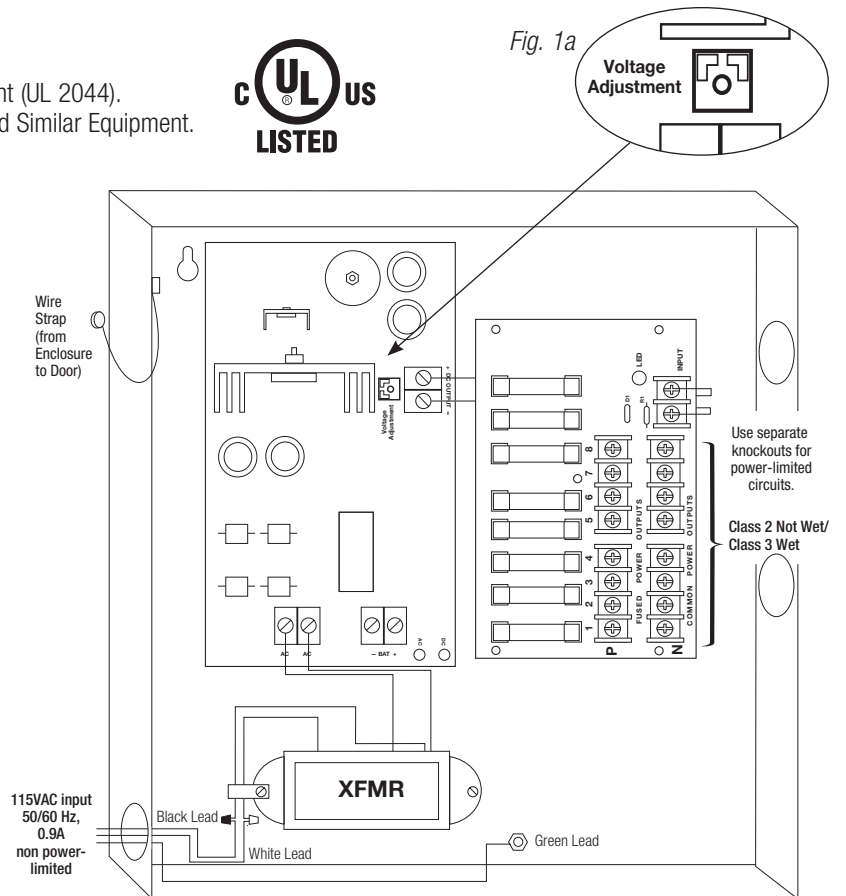

Fig. 1
- Output fuses are rated at 3.5A/250VAC (Fig. 1).
2. Connect green lead to earth ground. Connect AC (115VAC, 50/60 Hz) to the black and white flying leads of the transformer (Fig. 1). Use knockout adjacent to the transformer. 0.25" spacing must be provided between AC input wiring and all other circuits.
5. Connect each DC CCTV cameras to the terminal pairs marked [1P-1N] through [8P-8N] on PD8 board, carefully observing correct polarity (Fig. 1).